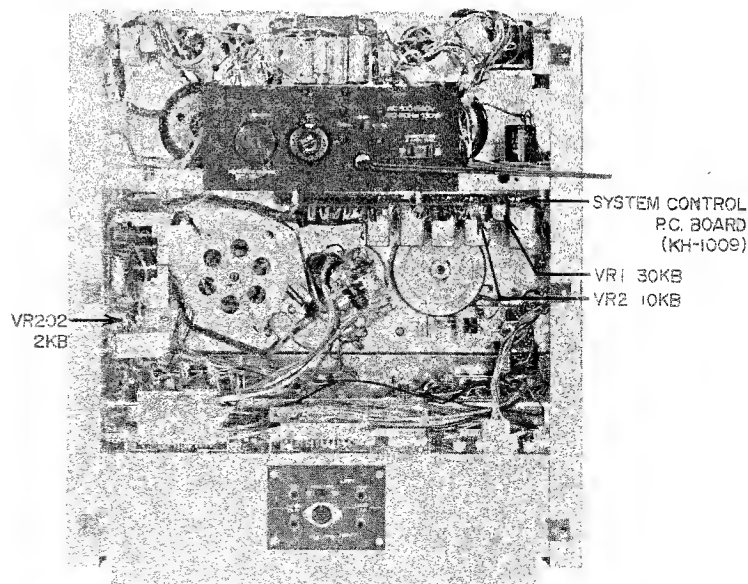

Fig. 9
- 4) When the 3-3/4 ips tape speed adjustment is completed, set the Tape Speed Selector to 7-1/2 ips and adjust Servo P.C. Board (KH-1011) semi-fixed resistor VR-202 (2k B) shown in Fig. 9 to obtain a Frequency Counter indication of 1,000 Hz $\pm 1/-0.5\%$.
2. DIRECT FUNCTION TIME CONSTANT ADJUSTMENT (See Fig. 9)